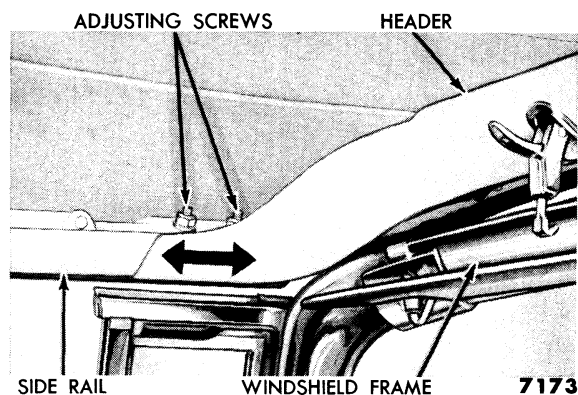

Fig. 18—Top Header Adjustment
(1) **HEADER ADJUSTMENT.** This adjustment provides fore and aft movement of the top header to maintain alignment along the front edge of the header with relation to the windshield frame (fig. 18). The header adjustment also eliminates excessive slack in the top material between the header (number one bow) and the number two bow.
The screws that attach the header to the side rail move in elongated holes (fig. 18). Loosen the nuts, and shift the header bracket either forward or backward in the elongated holes to align the header with the windshield frame or to remove excess slack from the top material. Tighten the screws after making the adjust-